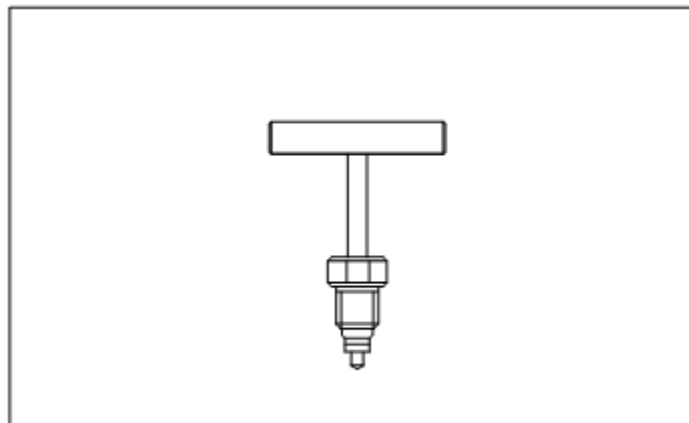

Figure 19
5. Position the bracket so it encircles the large nut (see Figure 19).
6. Secure the bracket to the valve body by tightening the bracket screw (see Figure 19).